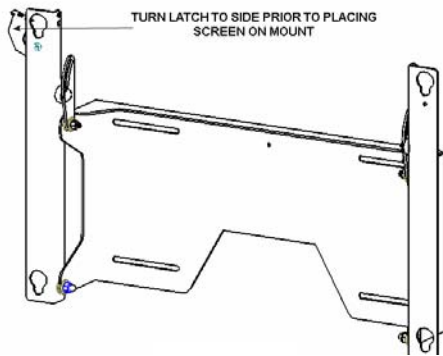

Figure 5
- Make sure the flag is lowered to the side before attempting to place the display on the mount (See Figure 5).